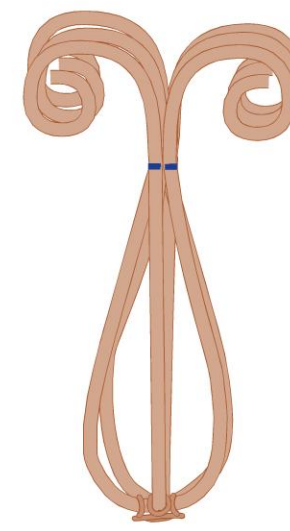

figure 7
- 1 4** Use the tips of round-nose pliers to form a loop on each wire end, continuing to loop around one-quarter turn to create an open spiral, so the loops are facing outward from the center of the pod. The loops need to be parallel to each other. If necessary, bend the frame wires again so they are parallel to each other after making the loops (Figure 7).